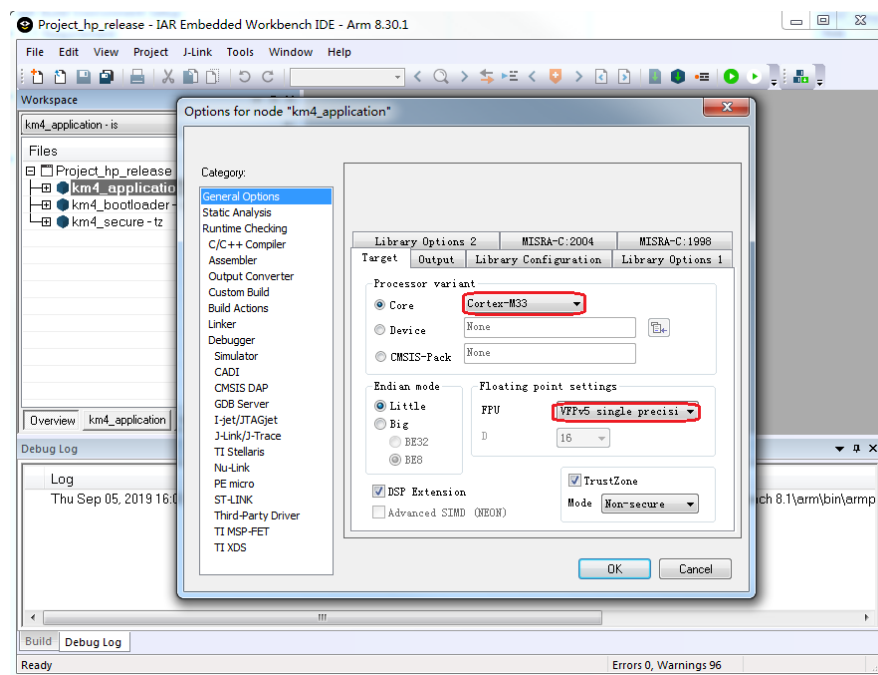

Fig 1-7 KM4 processor options
- (1) Open project\realtek_amebaD_va0_example\EWARM-RELEASE\Project_hp_release.eww.
- (2) Refer to 1.3.1 and choose the build configurations for each project according to your application.
- (3) Click **Project > Options, General Options > Target > Processor Variant > Core**, verify the CPU configurations according to Fig 1-7.